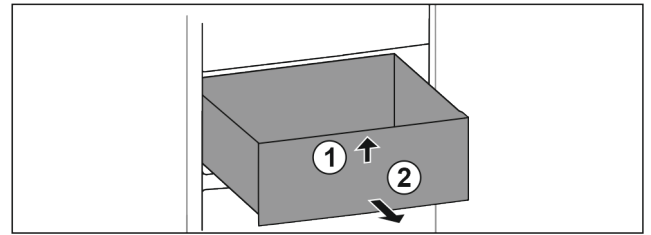

Fig. 60
- Lift up drawer at the front. Fig. 60 (1)
- Remove drawer to the front. Fig. 60 (2)